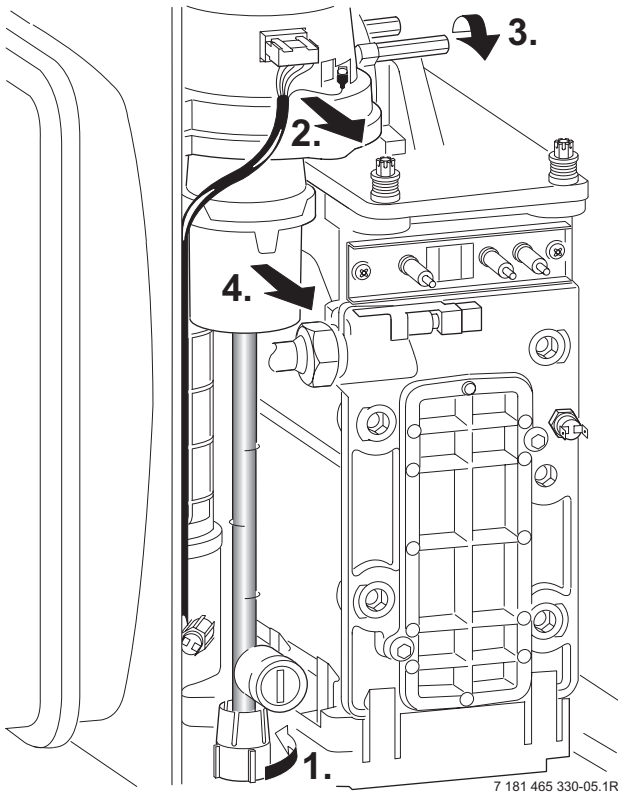

Fig. 54
- Undo lower pipe union on gas pipe (1.). Refer to fig. 54.
- ▶ Undo the union, within the inner casing, securing the valve to the gas/air tube. Refer to fig. 54.